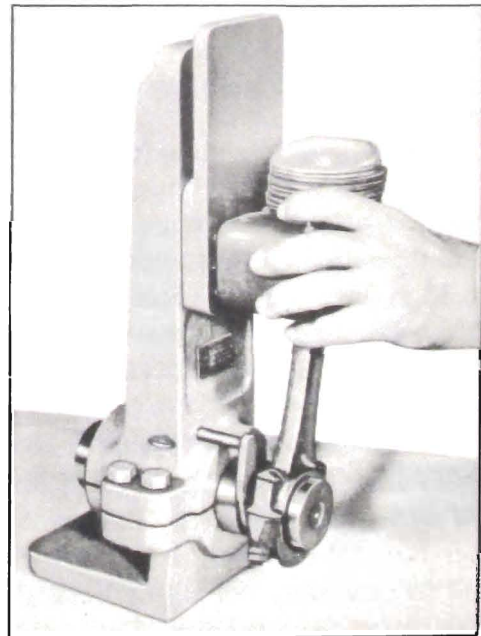

Figure 2-38—Checking Connecting Rod and Piston Alignment
3. Check alignment of rod and piston in the connecting rod aligning fixture. See figure 2-38.